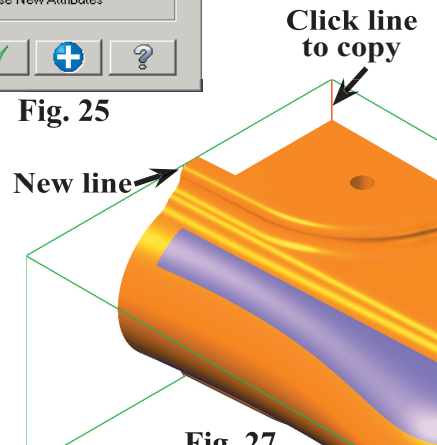

Fig. 27
Step 1. Click the **back rear vertical line** of the wireframe, Fig. 27.